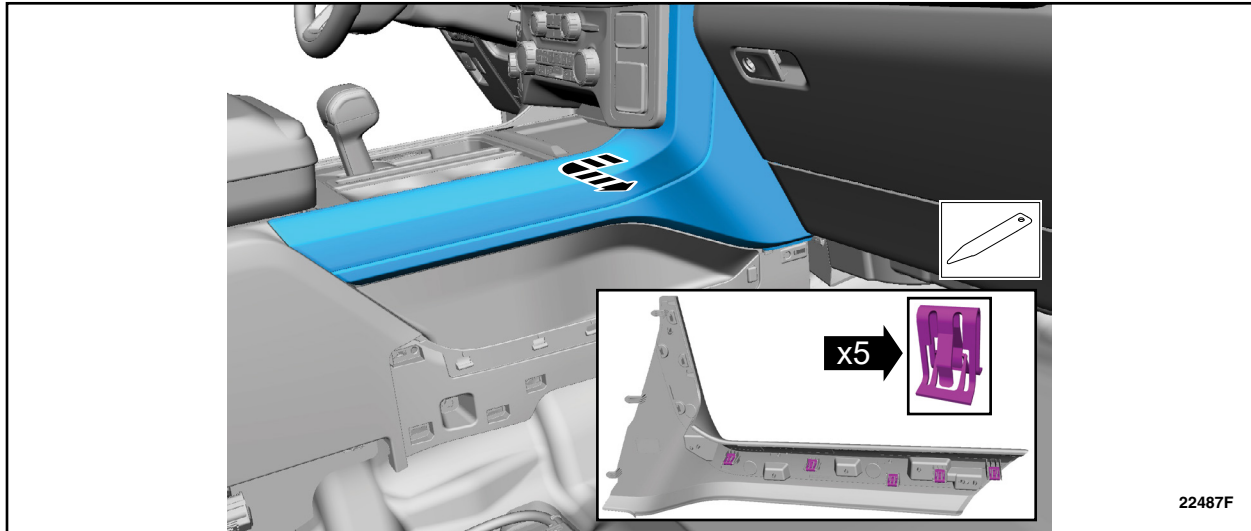

FIGURE 6
8. Release the clips and remove the floor console upper RH trim panel. See Figure 6.